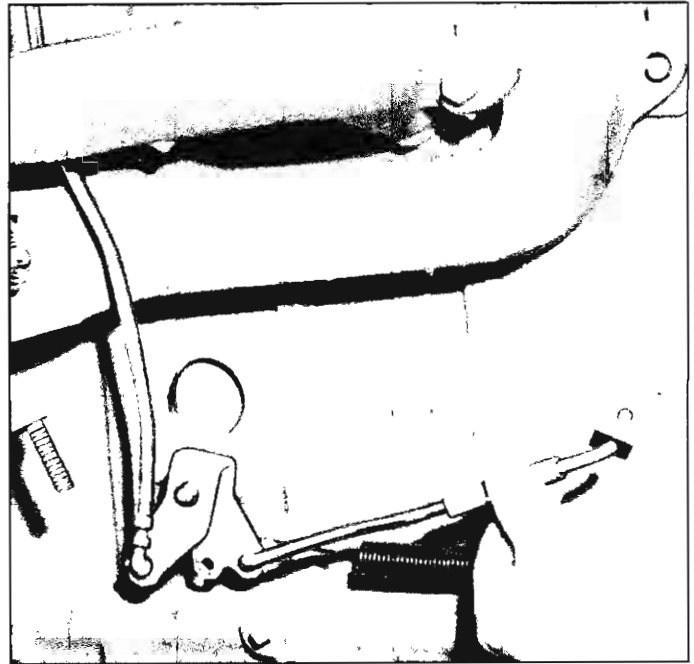

Fig. 11—Adjusting Throttle Linkage—Six Cylinder Carburetor
- **Choke Adjustment**—Check position of scribe mark on automatic choke cover and coil assembly relative to raised index mark on choke housing. Index mark on cover should be aligned with automatic transmissions and should be positioned one (1) notch lean on vehicles with conventional transmissions. Adjust marks, if necessary, by rotating cover. Inspect choke for smooth operation (with throttle control tool removed).
- **Throttle Linkage Adjustment**—Depress accelerator pedal to floor and check to see that throttle lever stop tang (fig. 11) contacts stop on throttle body (throttle valves wide open). If contact is not made, disconnect throttle rod from carburetor, depress accelerator pedal to floor and, while holding throttle valves wide open (fig. 11), adjust throttle rod swivel until pin enters throttle lever freely, then secure pin.